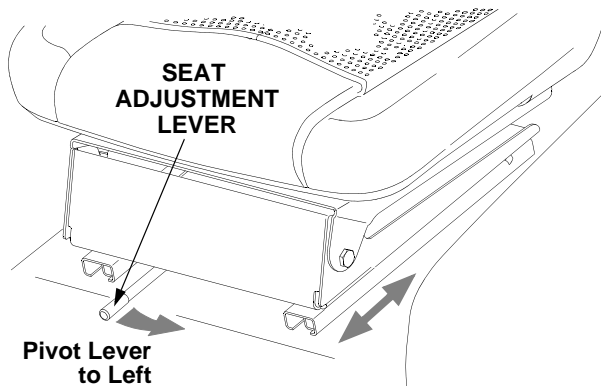

Figure 23
- After repositioning the seat, release the lever to lock the seat in position. Slide the seat either slightly forward or rearward to assure it is locked, or until engagement of the lock is felt. See Figure 23.